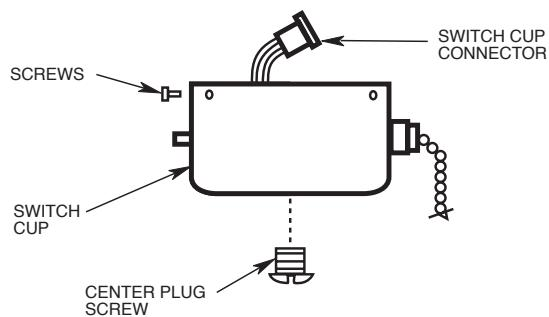

Figure 4
9. Remove the center plug screw from the switch housing assembly (Figure 4). Remove and retain the two wire connectors.